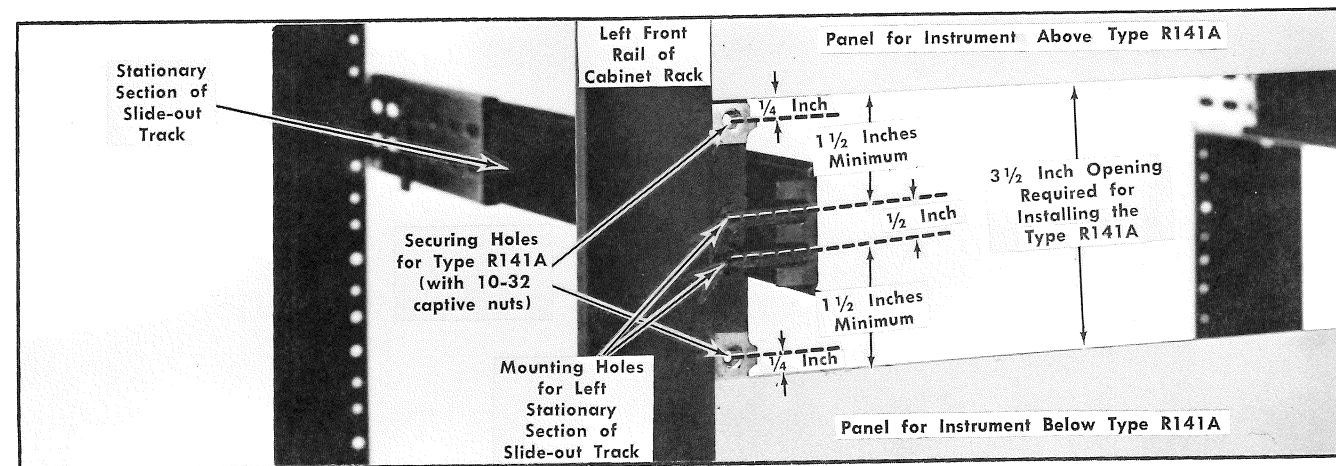

Fig. 9-5. Vertical mounting position of the left stationary section and location of the securing holes. These same dimensions apply to the right front rail.
Mounting Procedure—Use the following procedure to mount both sets. See Figs. 9-5 and 9-6 for installation details.
1. To mount the instrument directly above or below another instrument in the cabinet rack, select the appropriate holes in the front rack rails for the stationary sections using Fig. 9-5 as a guide.